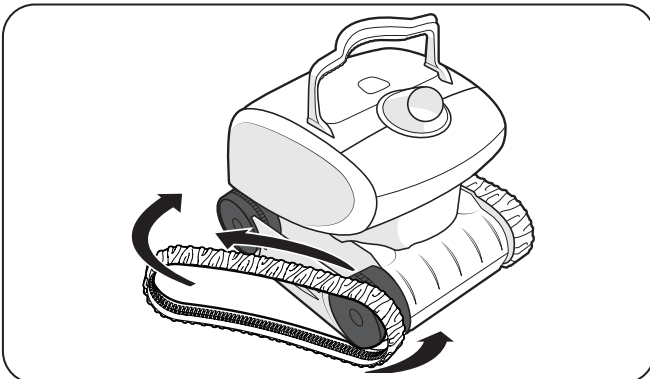

Figure 24. Stretch Track Around Wheels
3. To install a new track, place the inside rib of the track into the groove in the first wheel (Figure 24).
4. Stretch the track around the second wheel (Figure 24). Push and position the rib of the track so that the track is seated properly in the groove of the wheel.